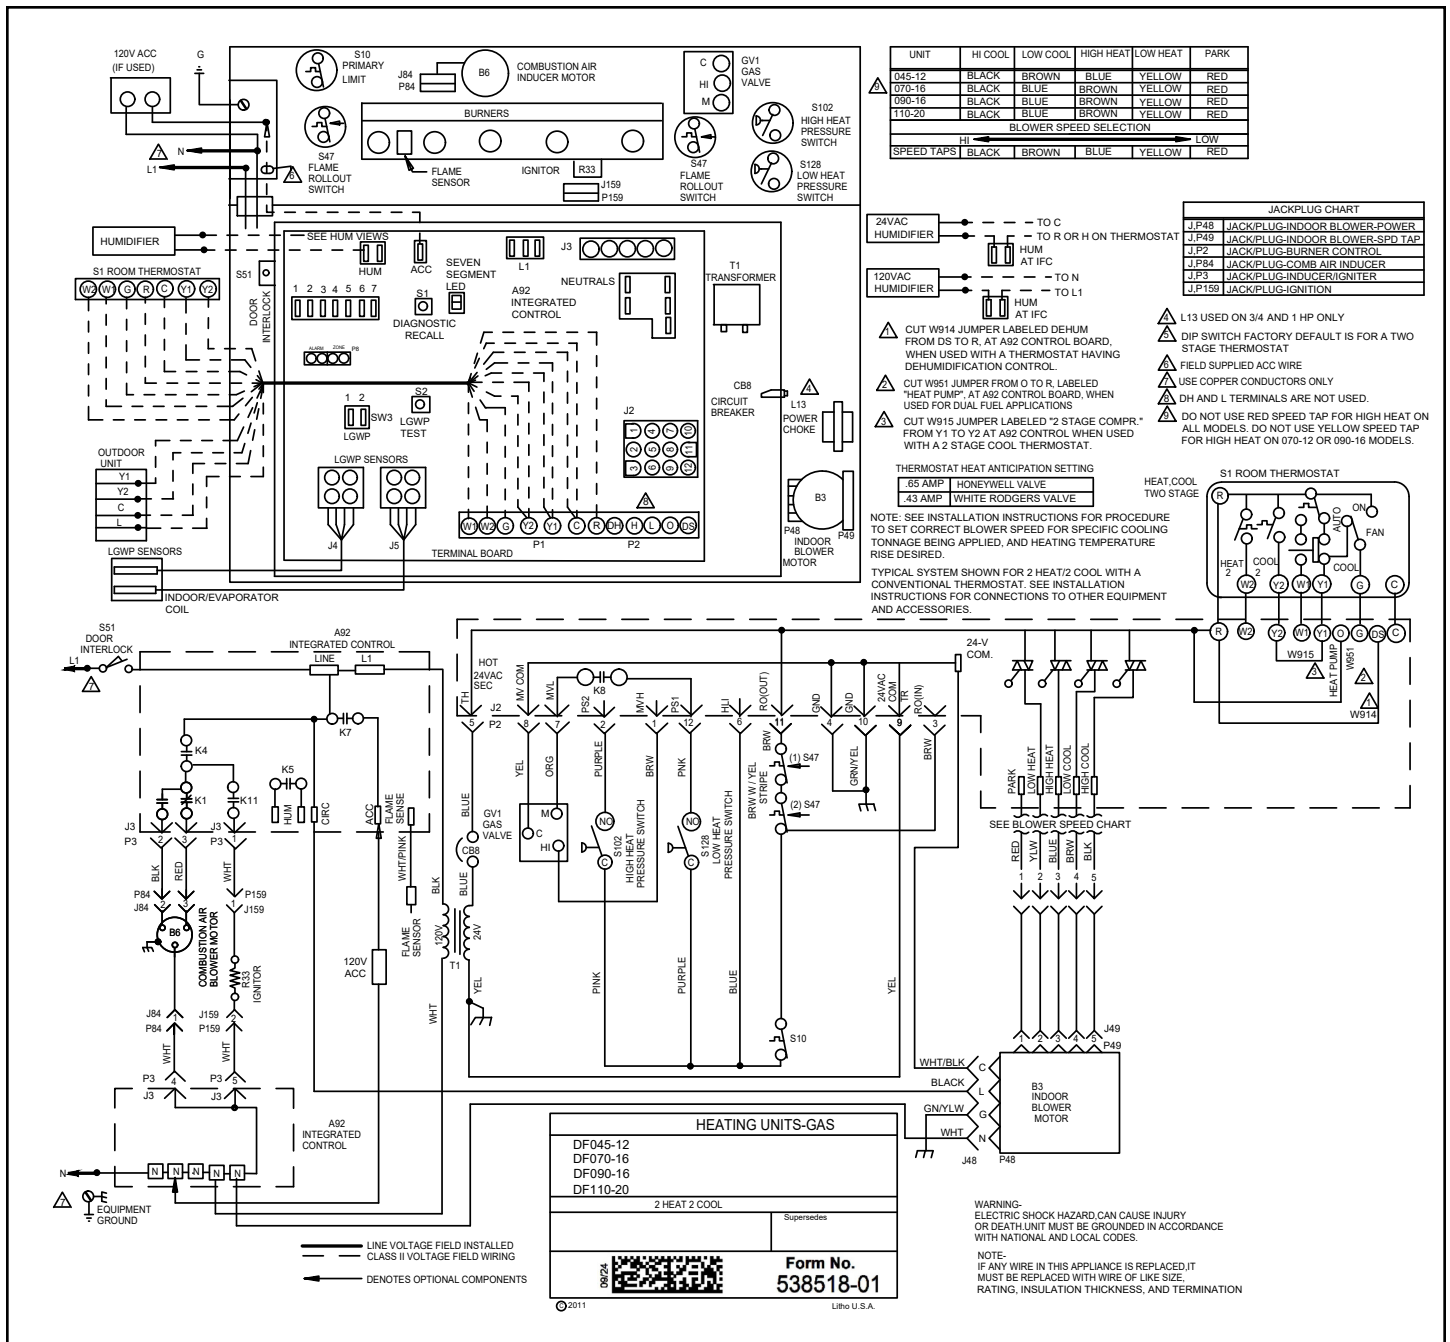

Figure 56. Wiring Diagram
Refer to Figure 56 for field wiring diagram and troubleshooting.
5. Complete the wiring connections to the equipment. Use the provided unit wiring diagram and the field wiring diagram shown in Figure 56. Use 18 gauge wire or larger that is suitable for Class II rating for thermostat connections.